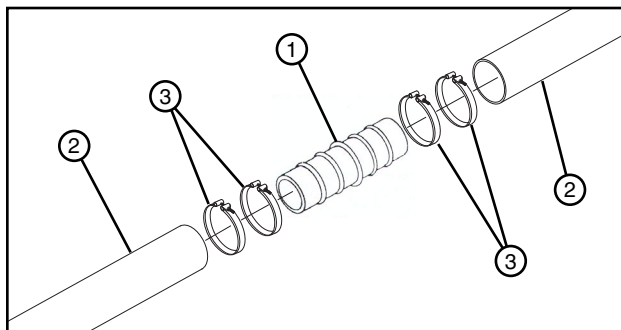

Figure 92-2 1. Rigid Mender 2. Hose 3. Clamp
1. Place the rigid mender between the two sections of hose. See figure 92-2.
2. Insert the mender halfway into the first hose section. See figure 92-2.
3. Slide the other hose section into the mender. See figure 92-2.
4. Secure both hoses onto rigid mender with band clamps. See figure 92-2.